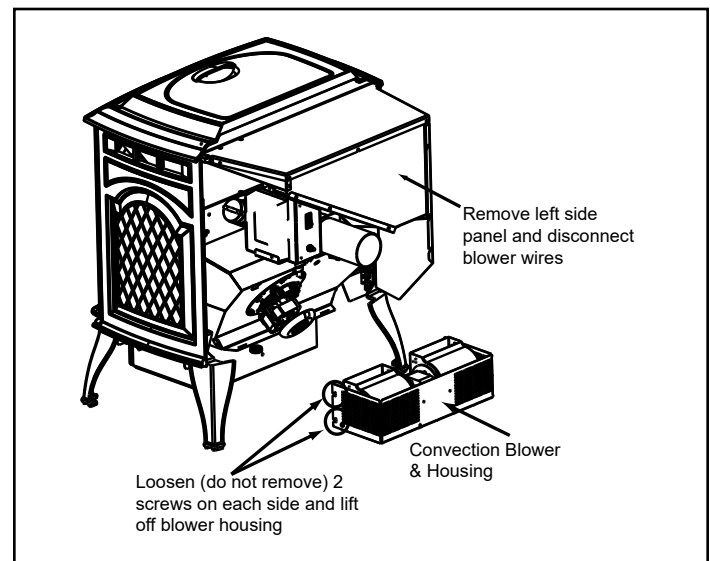

Figure 22.3
- There are 2 screws on each side of the housing. Loosen all 4 screws, but do not remove them. Lift the blower housing up slightly and slide towards you (**Figure 22.3**).